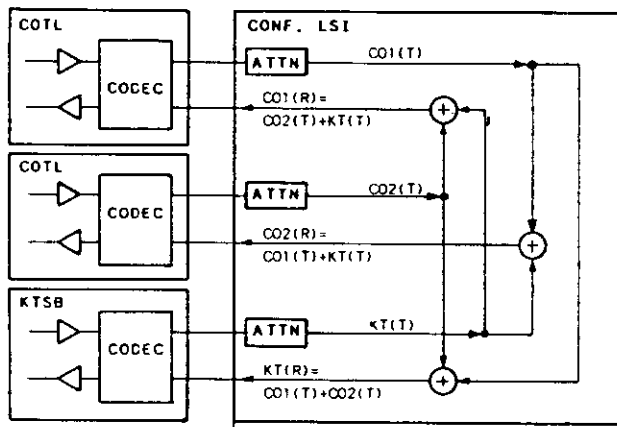

FIGURE 6-19 MULTI-LINE CONFERENCE
Circuit Operation: An extension can engage up to two CO/PBX lines simultaneously. Figure 6-19 illustrates the voice path in the digital conference circuit.
1. Individual input/output circuit engaged on conference takes one PCM time slot on the THW and RHW. The conference LSI in the CPUHW card receives two THW data, adding them and send to RHW. In the example of Figure 6-19. CO No.1 RHW receives voice which is sum of CO No.2 THW and KT THW.